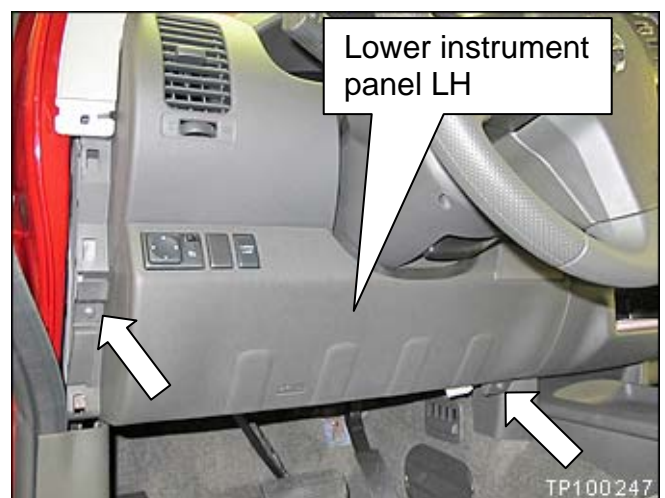

Figure 2
3. Remove the two screws show in Figure 2.